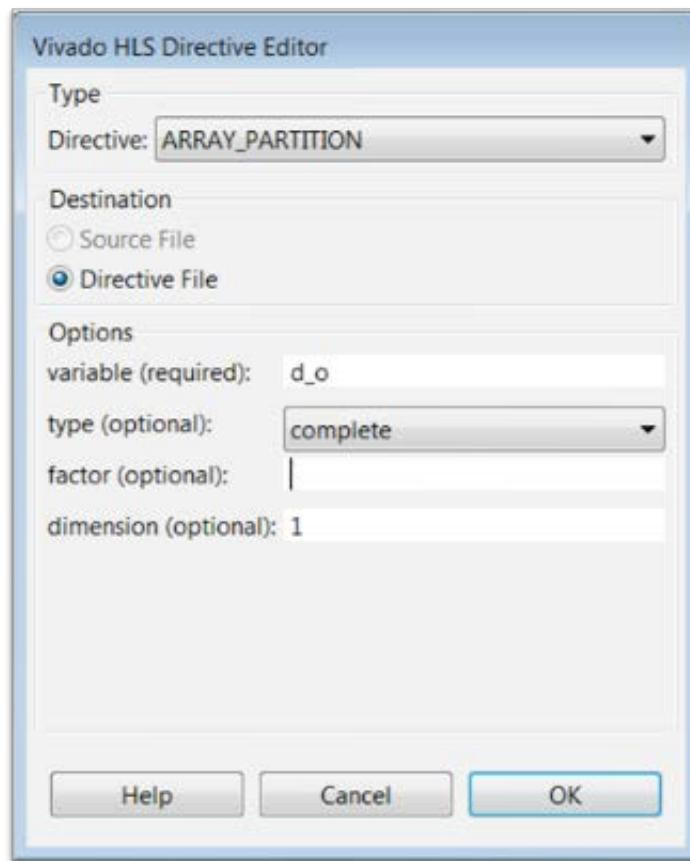

Figure 80 Directives Editor for Partitioning Array d_o
- c. With the Directives Editor as shown in Figure 80, click OK.